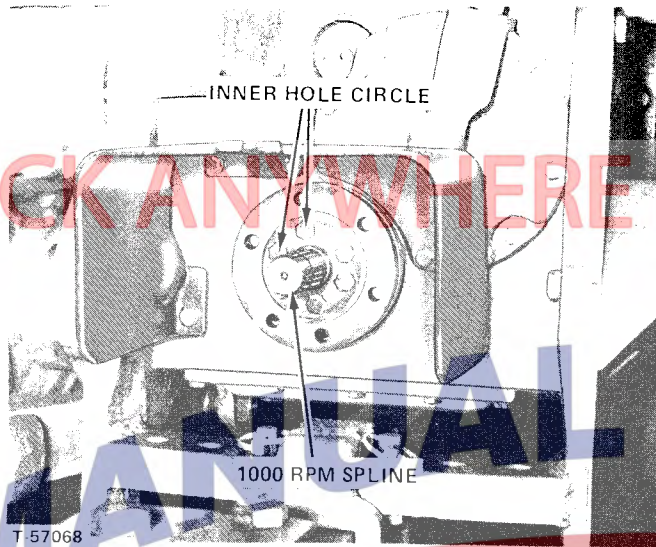

FIGURE 30
3. Align all 6 holes of the inner circle of the stub shaft with the tapped holes in the inner (1000 RPM) flange. Insert the 6 capscrews. (Figure 30).